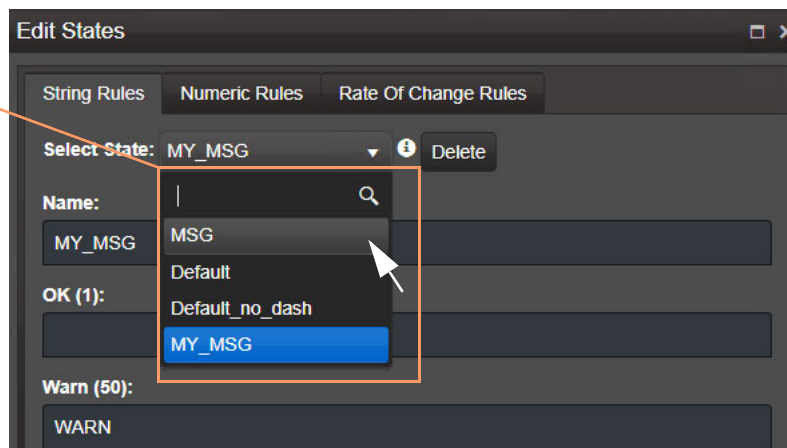

Fig. 2-28: Select State
- 4 Select the state rule to edit from the **Select State** drop-down list. See Figure 2-28.